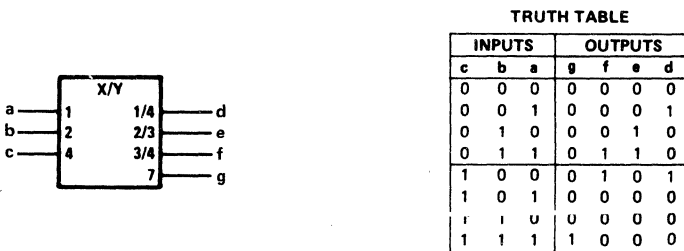

Figure 27. An X/Y Code Converter
- 1) labeling each output with a list of numbers representing those internal values that lead to the internal 1-state of that output. These numbers shall be separated by solids as in Figure 27. This labeling may also be applied when Y is replaced by a letter denoting a type of dependency (see Section 7). If a continuous range of internal values produces the internal 1 state of an output, this can be indicated by two numbers that are inclusively the beginning and the end of the range, with these two numbers separated by three dots (e.g., 4 . . . 9 = 4/5/6/7/8/9) or by